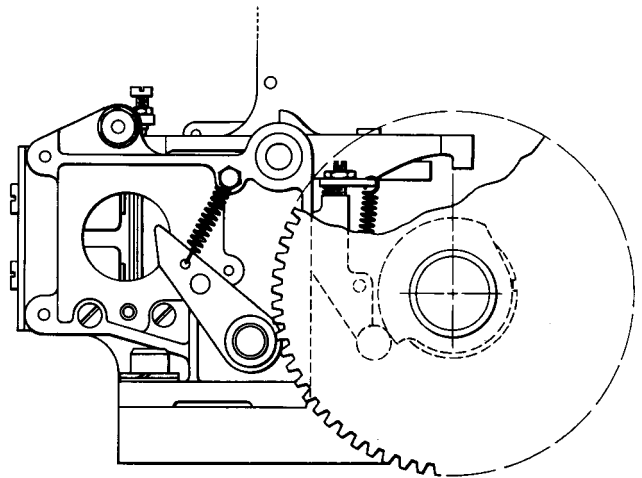

Figure 27. Clutch Position
1. Set the clutch so that the latch arm is on the vertical centerline of the picker cam shaft within  $.005''$  (Figure 27).